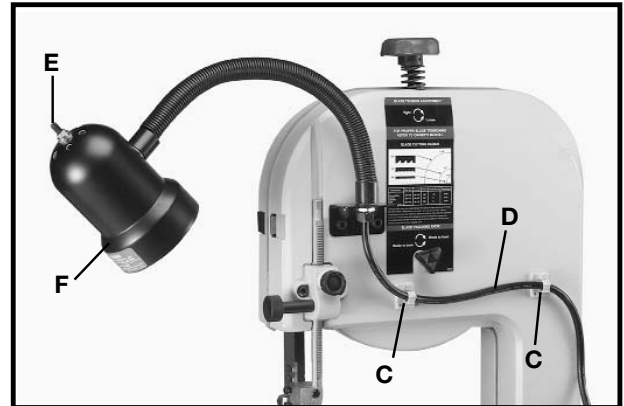

Fig. 13A
2. Peel backing from cord clamps (C) Fig. 13A, and apply one clamp at each of the locations shown. Make certain the lamp cord is routed out of the way of the blade, then secure cord (D) to cord clamps (C) as shown in Fig. 13A.
3. The flexible lamp operates independently of the band saw. To turn the lamp on and off, rotate switch (E) Fig. 13A.